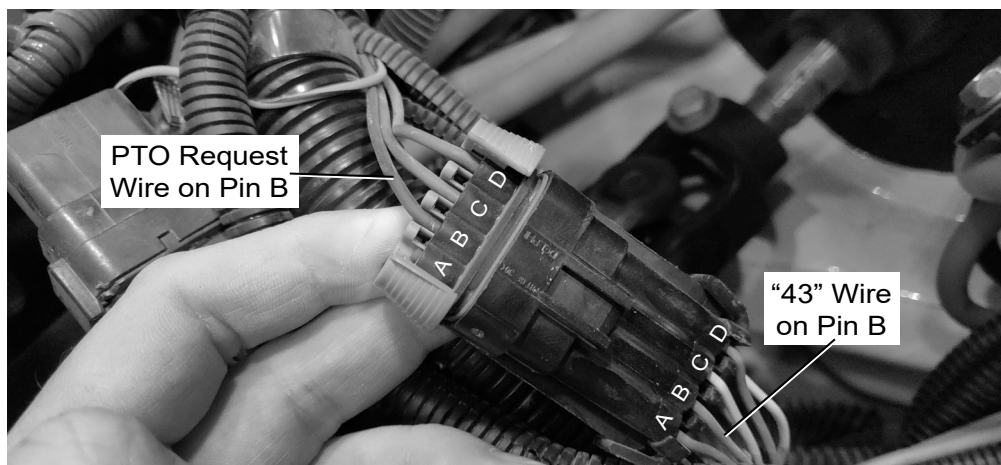

Figure 5 – Inspecting for PTO Request Wire on Pin B
6. The male plug body that the “43” wire is connected to has pin cavity identification letters A through D marked on one side of the body. Determine which letter corresponds with the “43” wire connection (normally B or D) (refer to Figures 5 and 6).
7. Inspect for a wire connected to the mating female plug body at the same pin cavity letter that was identified for the “43” wire on the male plug body in step 5 (refer to Figures 5 and 6).